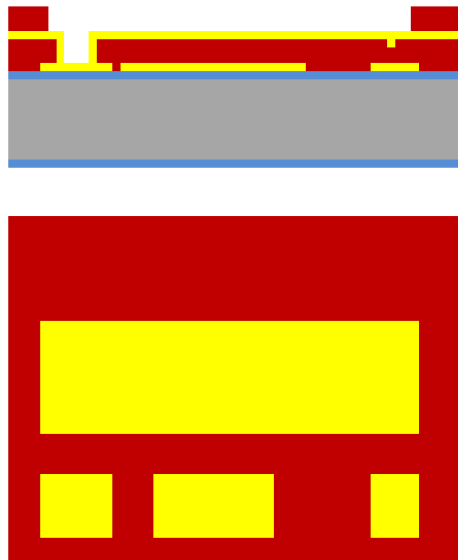

Figure 9 Photolithography to create electroplating mold.
a. Spin coat **S1827** positive photoresist (**Figure 9**):
- g. *Develop (Figure 9)*: